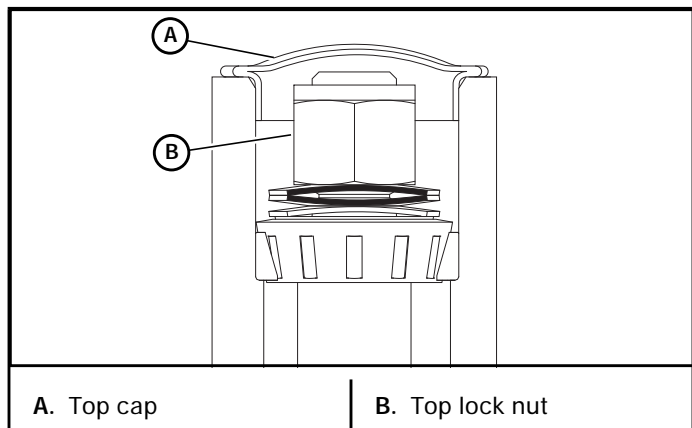

Figure 4-12
3. Remove the top cap and the top lock nut. Figure 4-12